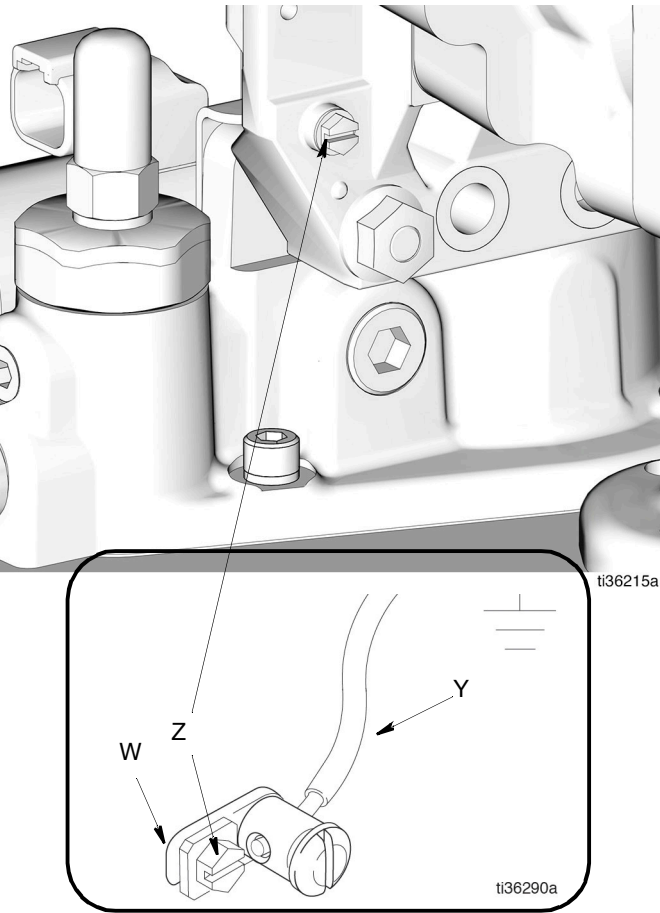

FIG. 1
To ground the pump: remove the ground screw (Z) located on the back of the gear box and insert it through the eye of the ring terminal (W) at end of ground wire (Y). Fasten the ground screw (Z) back onto the pump and tighten securely. Connect the other end of the ground wire (Y) to a true earth ground (FIG. 1). To order a ground and wire clamp, order Part 222011.